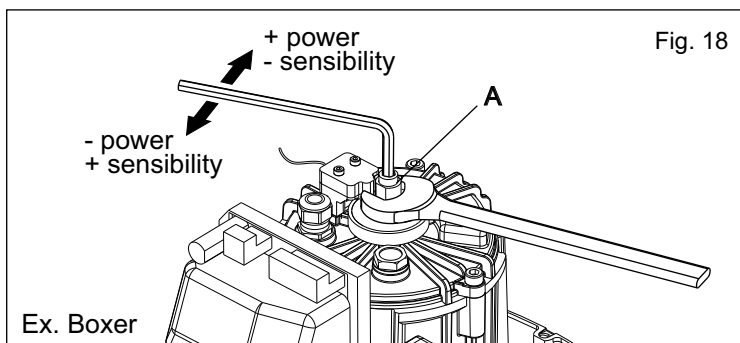

Fig. 18
- Act on the scrub screw "A" (Fig. 18) as follows: